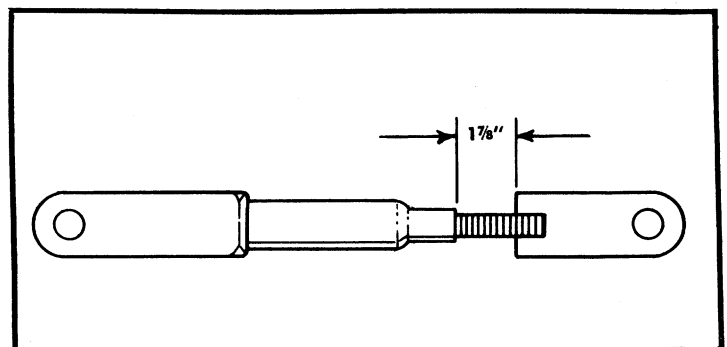

FIGURE 8. CENTER ADJUSTMENT ARM
Step 11. Assemble the two halves of the center adjustment arm together until there is 1-7/8" of thread showing. See Figure 8.